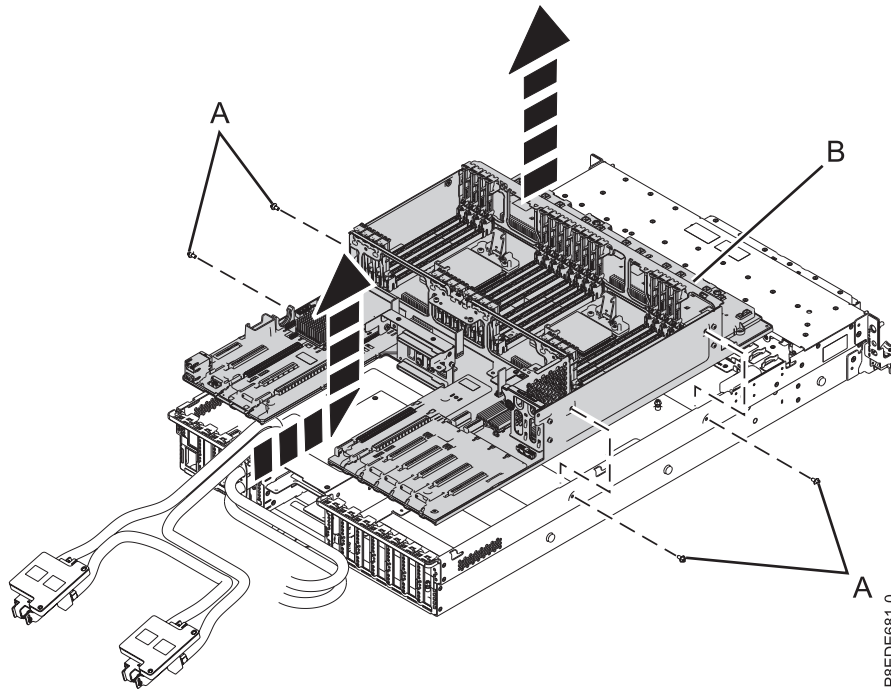

Figure 178. Removing the system backplane
- b. Using a Phillips screwdriver, unscrew and remove four screws (A) from the sides of the system chassis as shown in Figure 178 on page 181.
- c. Grasp the system backplane by the top guide rail (B). Slide it forward in the direction that is shown, then lift it up to remove it from the chassis. See Figure 178 on page 181.